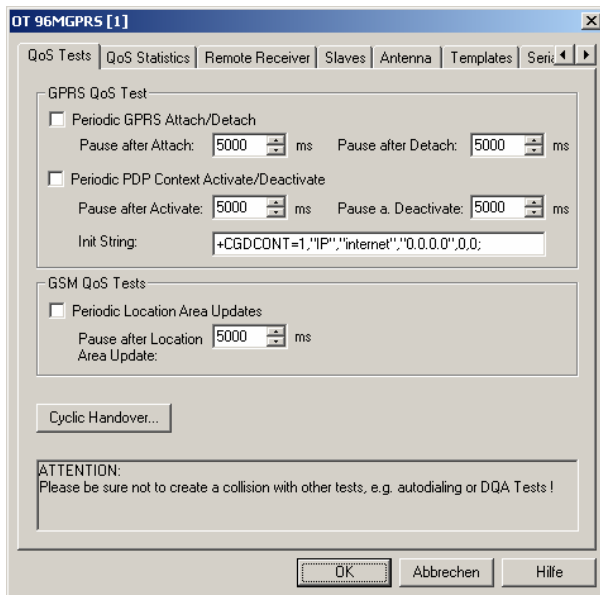

Fig. 6-21 Driver Configuration – QoS Tests tab (all drivers)
*PDP Context +CGDCONT* command, specifies PDP context parameter values for a PDP context identified by the (local) context identification parameter (first numeric parameter after “=”). The command is described in standard 3GPP TS 07.07 and is preset as shown in Fig. 6-21 above.